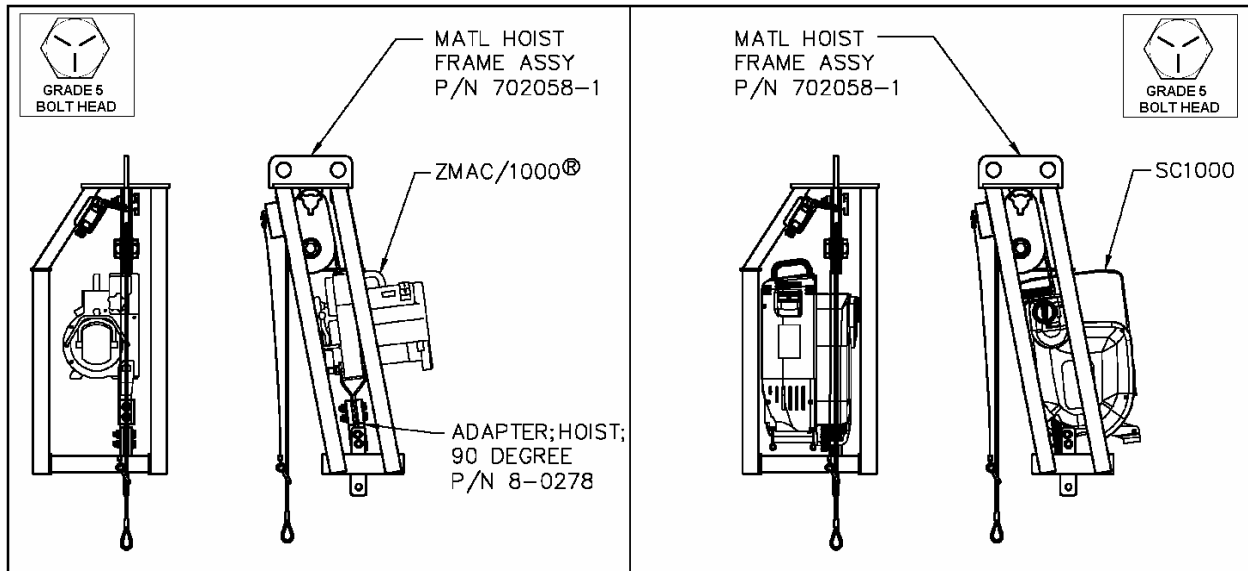

Figure 3.
1. The hoist frame is designed to use either the ZMAC/1000® or SC1000 electric traction hoist. Each hoist is connected to the hoist tabs on the material frame with two ½" Grade 5 bolts with applicable washers and nuts. To use the ZMAC/1000® a 90° adapter (8-0278) must be used. Refer to figure 3 illustrating the two hoist connections in the material hoist frame.